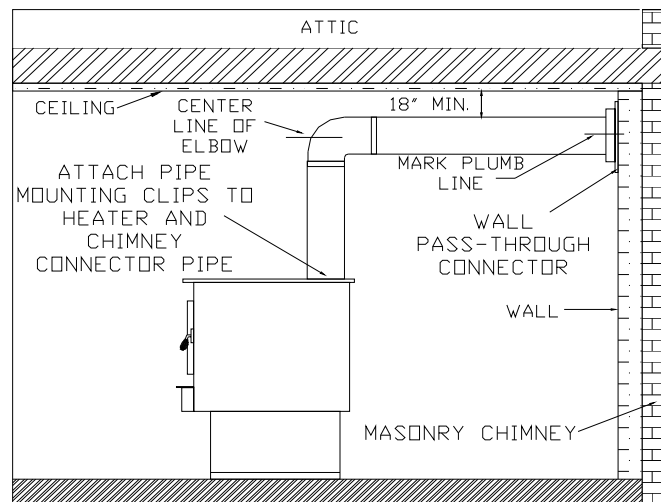

Figure 8
1. Before connecting these units to a masonry chimney, determine that masonry fireplace wall pass-through connector thimble meets **NFPA-211** Code and local building codes and is a minimum of 18" from ceiling. If connector thimble does not meet these codes, pass-through connector must be modified. (See Figure 8).